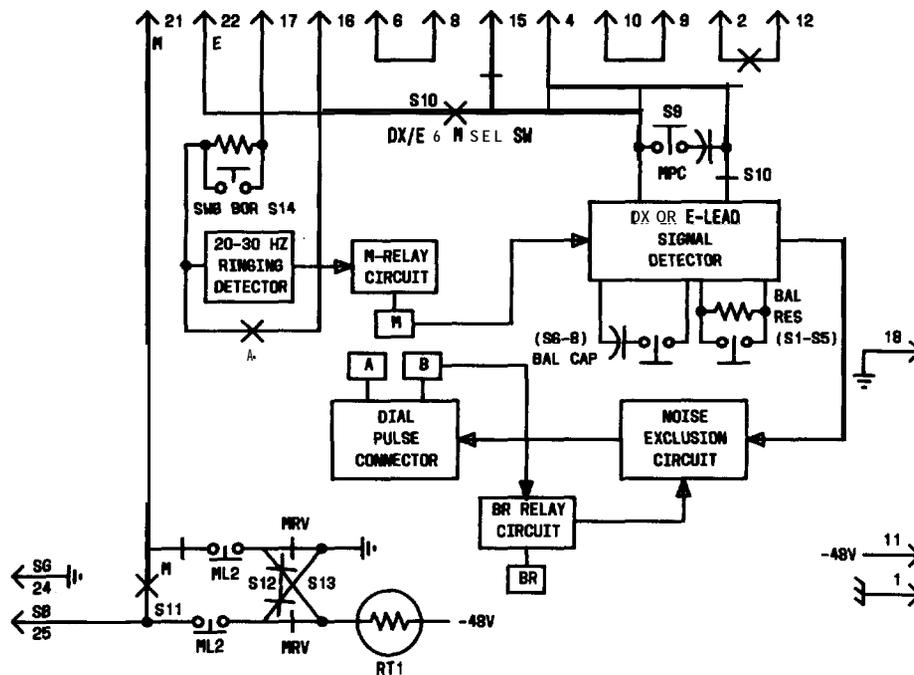
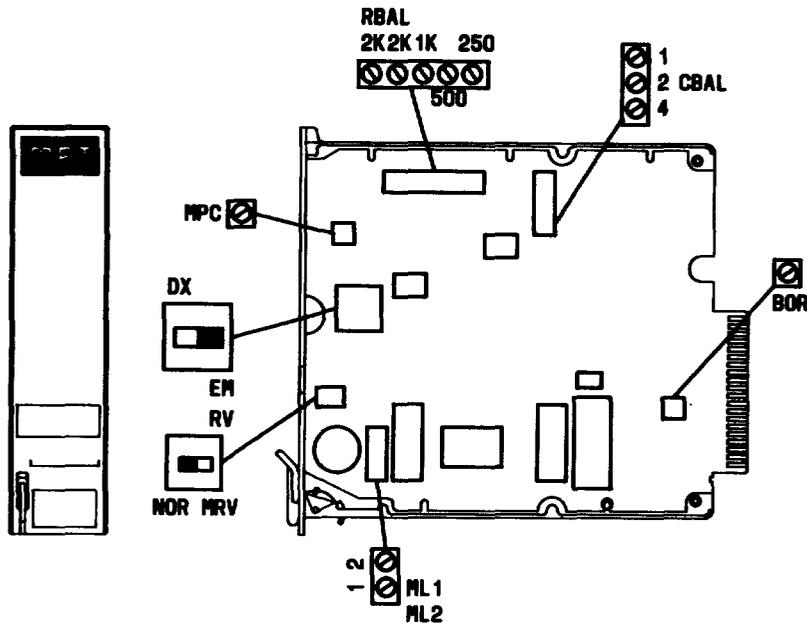

Fig. 1 — **J99343FA-1, L2** Block Diagram
Fig. 2—J99343FA-1, L2 Component Layout
The **J99343FA-1, L2** is a loop start to duplex (DX) or E&M signaling converter. The unit is used in conjunction with DX or E&M signaling units at the central office end of a loop start special service circuit. For a detailed description of this unit, see Section 332-911-105, **CD-1C359-01**, and **SD-1C359-01** (CPS 49). A block diagram is shown in Fig. 1 and switch locations are shown in Fig. 2.